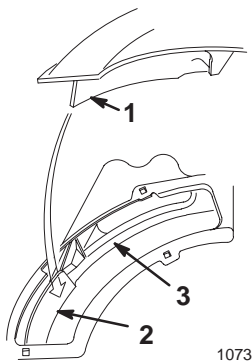

Figure 35
6. Rotate the chute counterclockwise and push it down into the deck opening (Fig. 35).
5. Place the front corner of the mulch plate baffle into the deck opening (Fig. 35).
6. Rotate the mulch plate counterclockwise and push it down into the deck opening (Fig. 35).